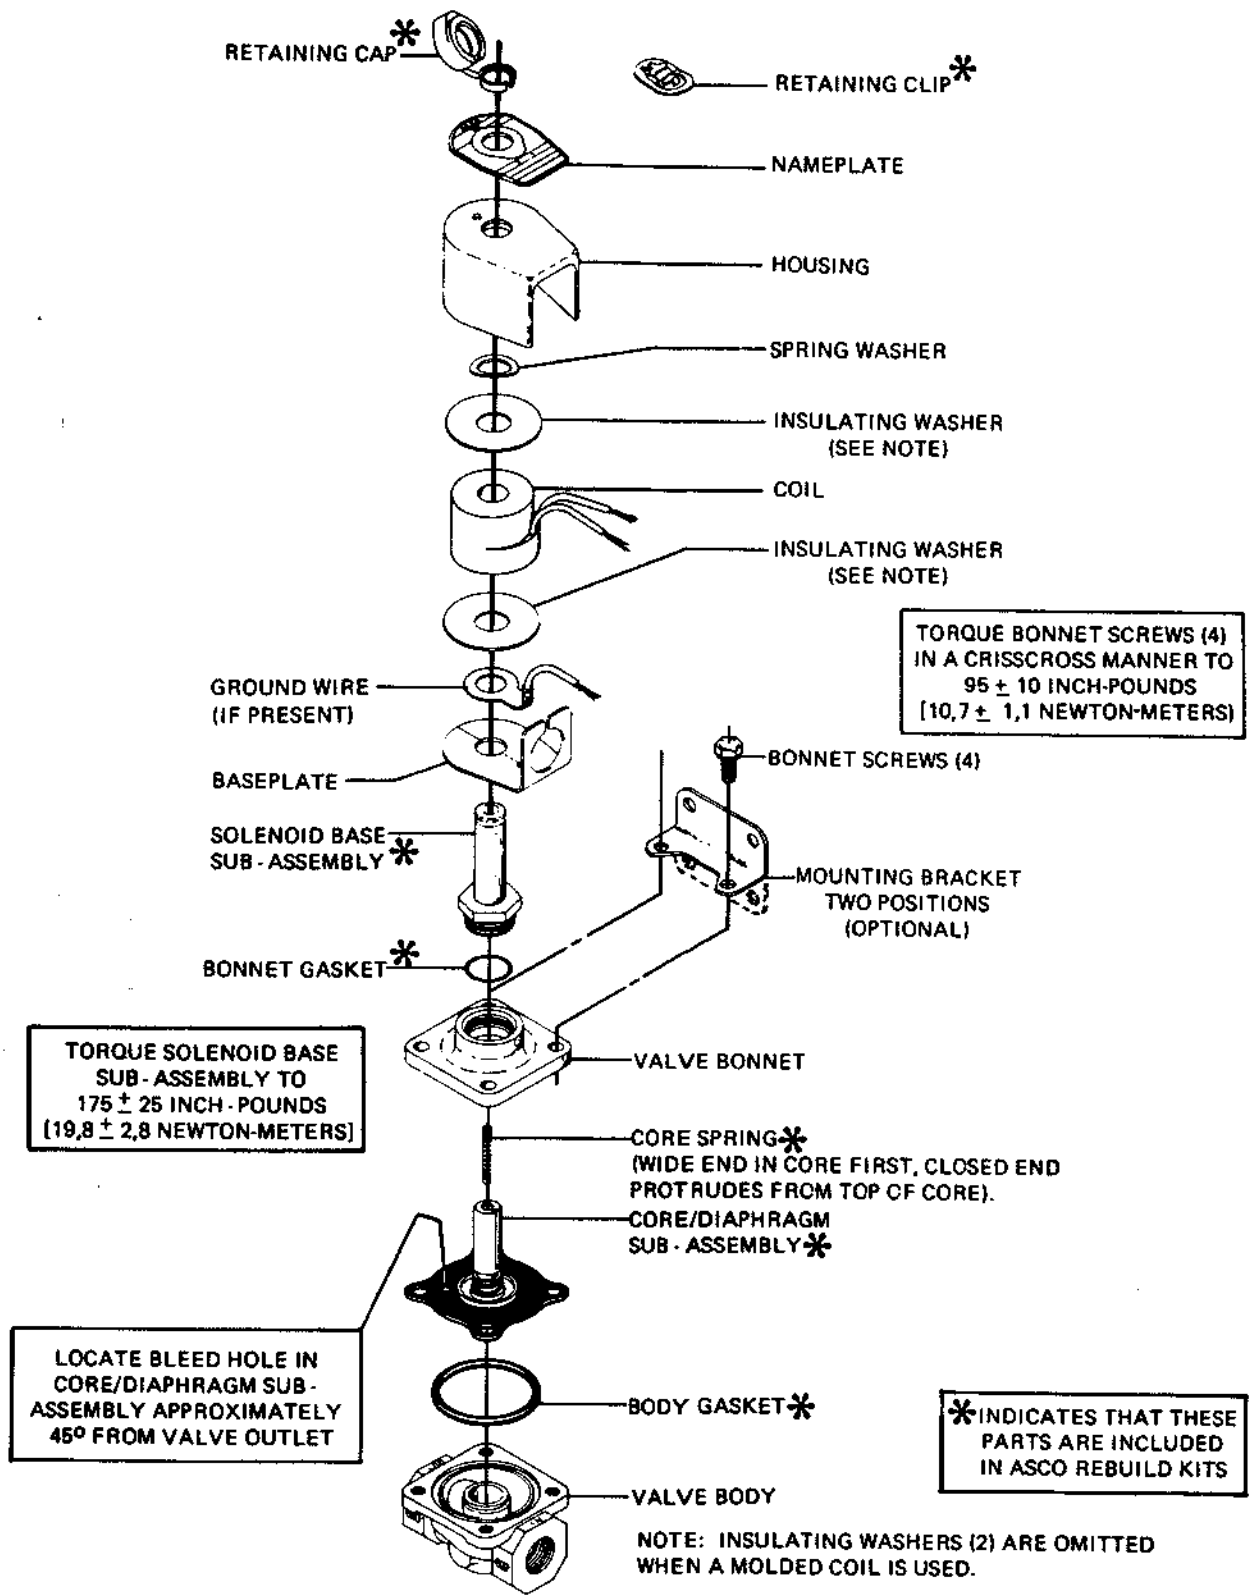
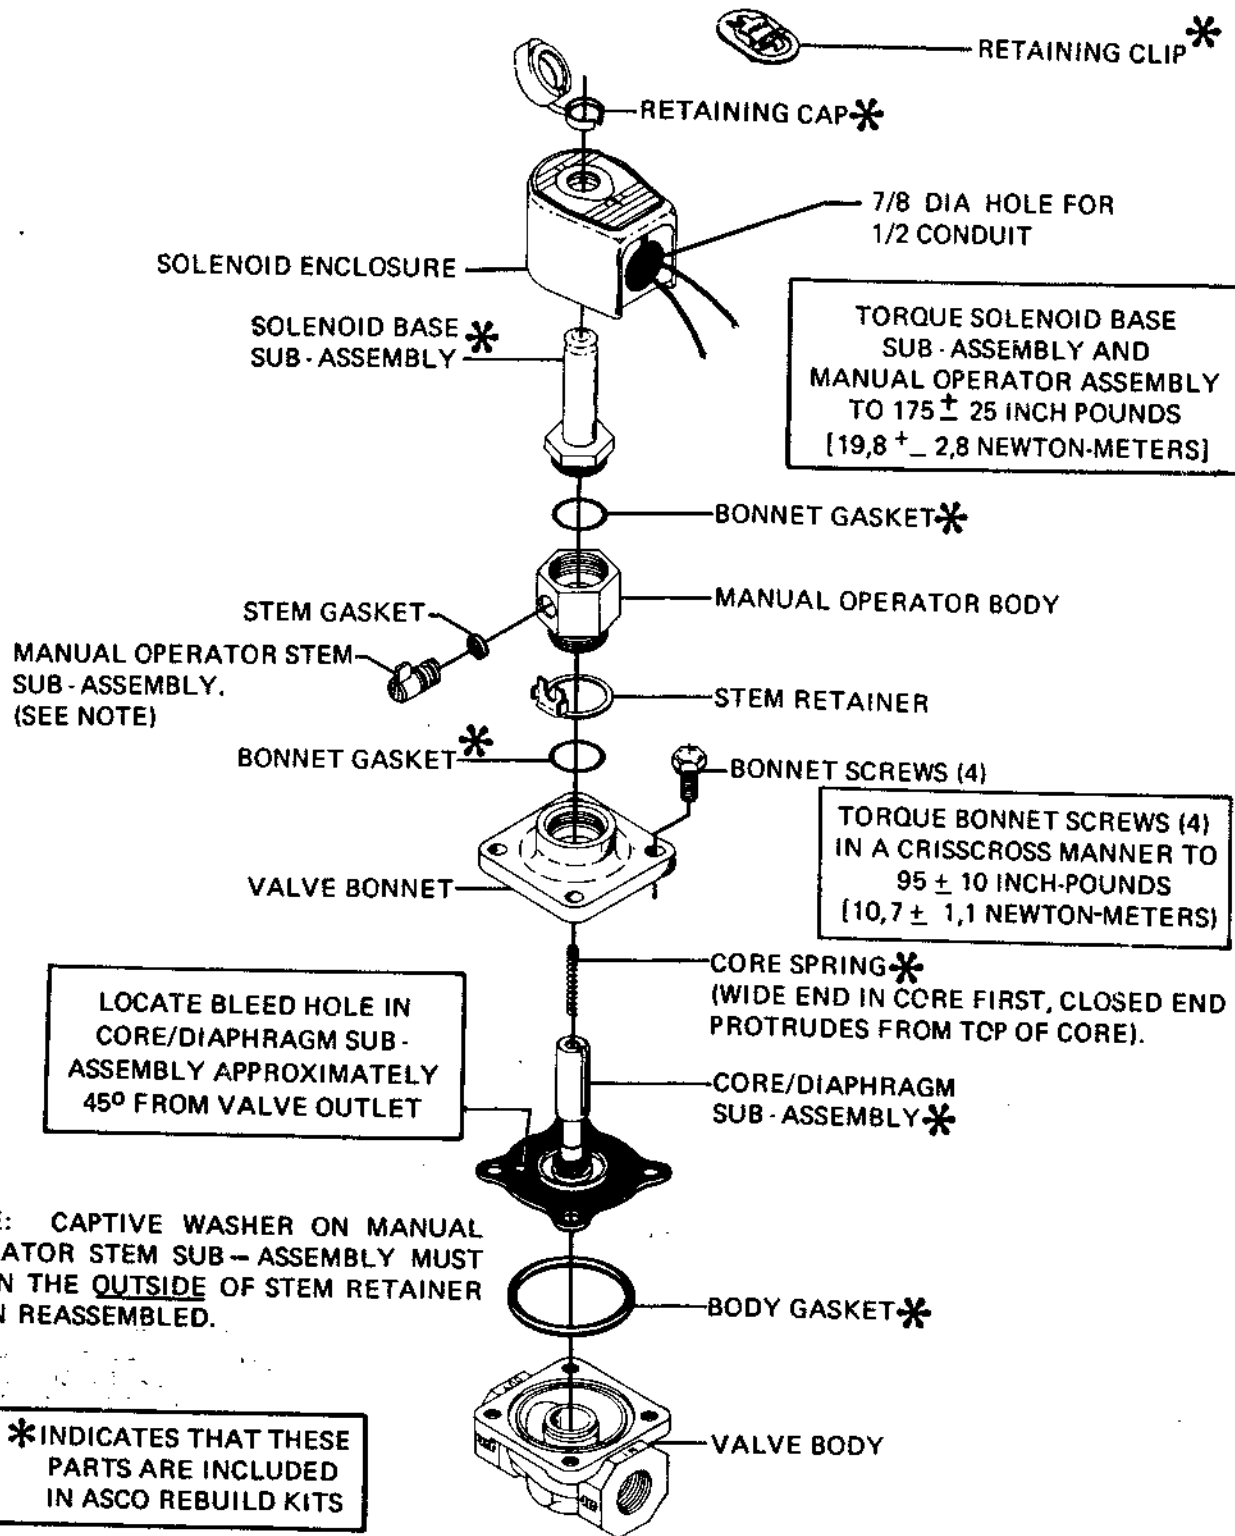

Figure 2. Bulletin 8210 - 1/2" and 3/4" NPT
Figure 3. Bulletin 8210 - Manual Operator
### Coil Replacement (Refer to Figure 2.)
**NOTE:** For valves with a manual operator (Suffix MO in catalog number) refer to Figure 3. For standard valves refer to Figure 2.
3. Remove bonnet screws (4), valve bonnet, core spring, core/diaphragm sub-assembly, and body gasket. **CAUTION:** Do not damage or distort banger spring between core/diaphragm sub-assembly.
7. Replace valve bonnet and bonnet screws (4). Torque bonnet screws (4) in a crisscross manner to 95 ± 10 inch-pounds (10,7 ± 1,1 newton-meters).